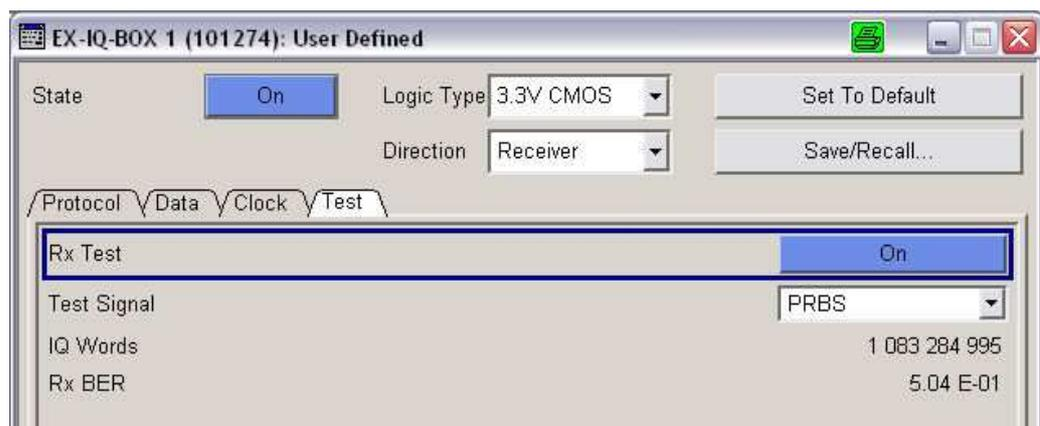

Figure 57: RX test: BER algorithm implemented
- ▶ In the *DigIConf* program's main window, set the direction to *Receiver* and open the *Test* tab. The RX Test window appears (see Figure 57).